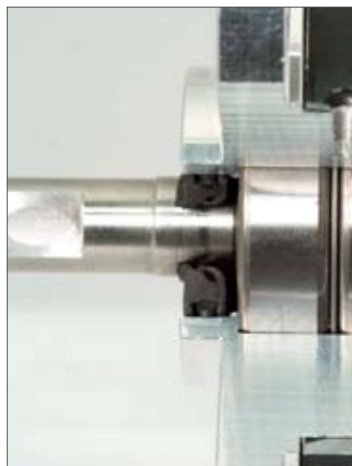
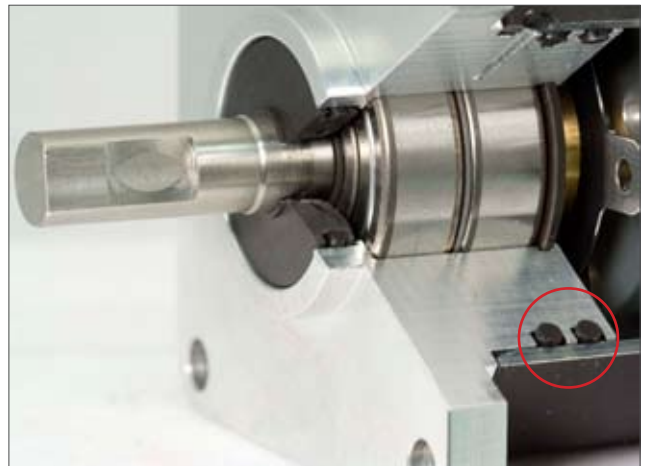

Figure 3
Figure 4
6. **Sealing.** There are three potential points of ingress for contaminants to enter the encoder: the shaft, cover and connector. The 725N has an optional IP67 shaft seal with a novel double-lip design (Figure 3). In addition, a set of dual o-rings (Figure 4) are installed between the cover and housing. EPC connector options are all sealed to IP67. With the 725N, all three points of ingress are effectively sealed.